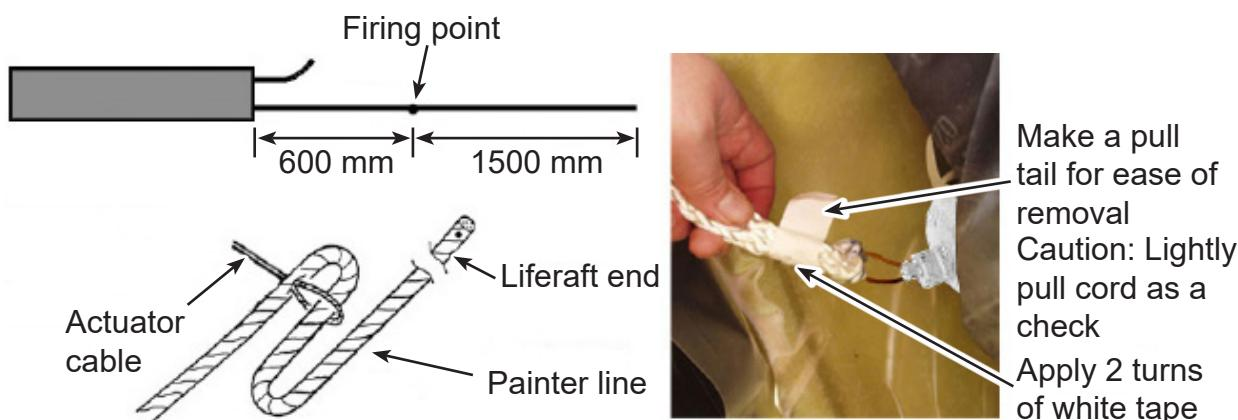

FIGURE 871
Refer to **Figure 871**.
8.32.2 Lightly pull on the cord to make sure that the painter cord is firmly attached to the operating head. Refer to **Figure 871**.